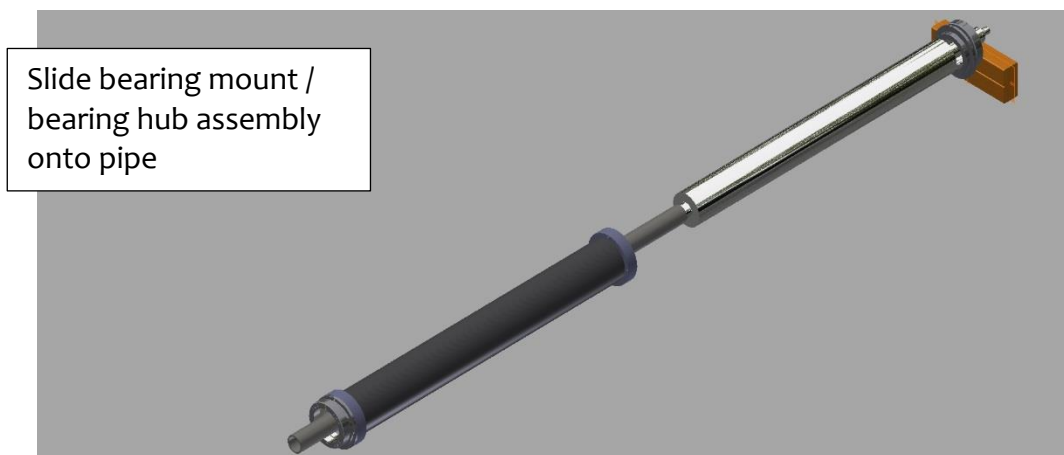

Figure 18
13. Once end of rotor is supported, slide shell / bearing mount / bearing hub assembly onto the pipe and replace wood support under the rotor shaft. Gently lower rotor back onto the wood supports. Remove bearing mount / bearing hub assembly and shell from pipe. Remove bearing mount / bearing hub assembly from other end of the rotor by using a strap to hang rotor for removal. See **Figures 18 & 19**.